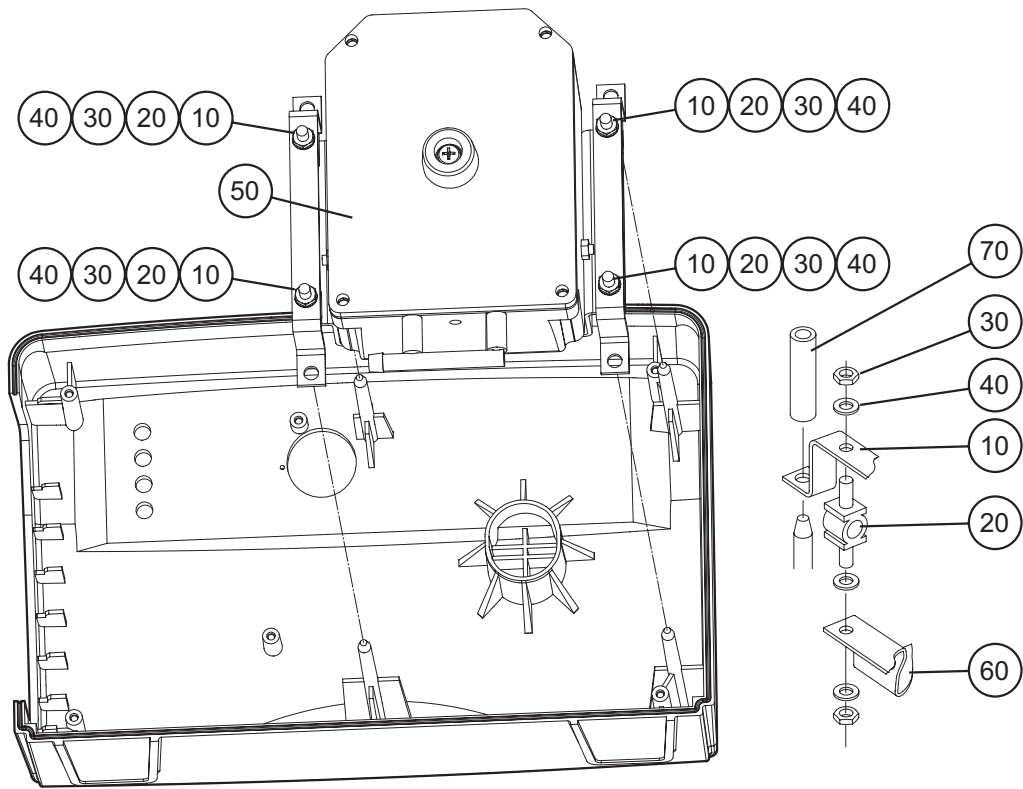

Figure 8 - Replacing the Old Style AV Mounts
- 16.3 Remove the securing spacers (Fig 8 Item 70) and carefully lift the compressor (Fig 8, Item 50) and AV bracket assembly (Fig 8, Items 10, 20, 30, 40, 60) from the mountings.
- 16.4 Release the top AV mount nuts (Fig 8, Item 30) and washers (Fig 8, Item 40) and remove the two AV mounting brackets (Fig 8, Item 10) from the AV mounts (Fig 8, Item 20).
- 16.5 Release the bottom AV mount nuts and washers and remove the four AV mounts from the compressor mounting bracket (Fig 8, Item 60).
- 17.1 Fit four replacement AV mounts (Fig 8, Item 20) to the compressor mounting bracket (Fig 8, Item 60) and secure with washers (Fig 8, Item 40) and nuts (Fig 8, Item 30).
- 17.2 Fit the two AV mounting brackets (Fig 8, Item 10) to the AV mounts and secure with washers and nuts.
- 17.3 Carefully fit the compressor (Fig 8, Item 50) and AV bracket assembly (Fig 8, Items 10, 20, 30, 40, 60) to the mountings in the pump case and fit securing spacers (Fig 8 Item 70).